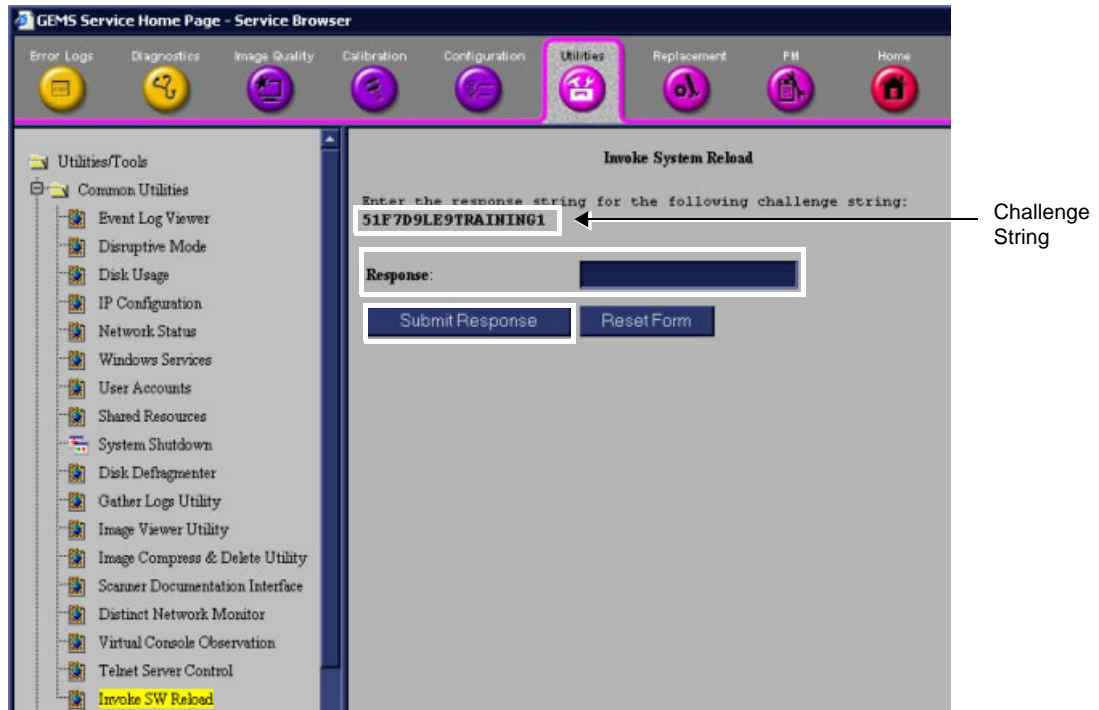

Figure 7-136 Invoke Software Reload
- 1.) From the system, click **Invoke Software Reload** in the left pane of the screen (Figure 7-136).
- 2.) Make a note of the Challenge string displayed in the *right* pane of the Invoke Software screen (Figure 7-136, above).
- 6.) On the Vivid *i* n/ Vivid *q* N system, type the Response code in the **Response** field in the pane on the right (refer to Figure 7-136).